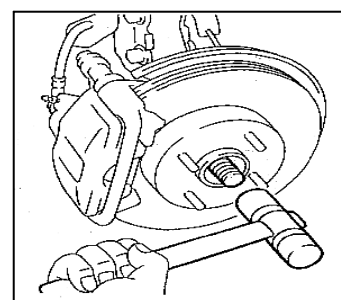

Fig. 1-4
18. Separate the front drive shaft assembly (see Fig. 1-4).